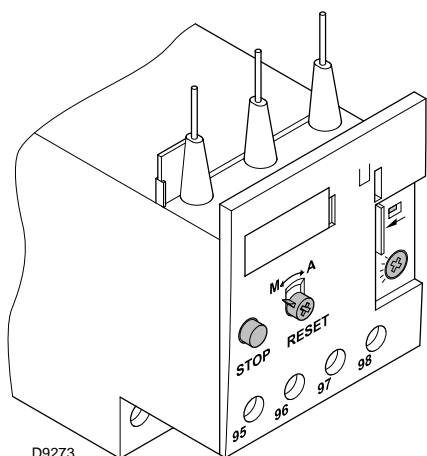

Fig. 38
The electro-mechanical thermal relay (Fig. 38) is used to avoid damage to the motor owing to a strong increase in absorption or the lack of a phase.
- To reset, in the case of an intervention of the thermal relay, press the button “RESET” (Fig. 38).
- The button “STOP” (Fig. 38) opens the NC (95-96) contact and stops the motor.